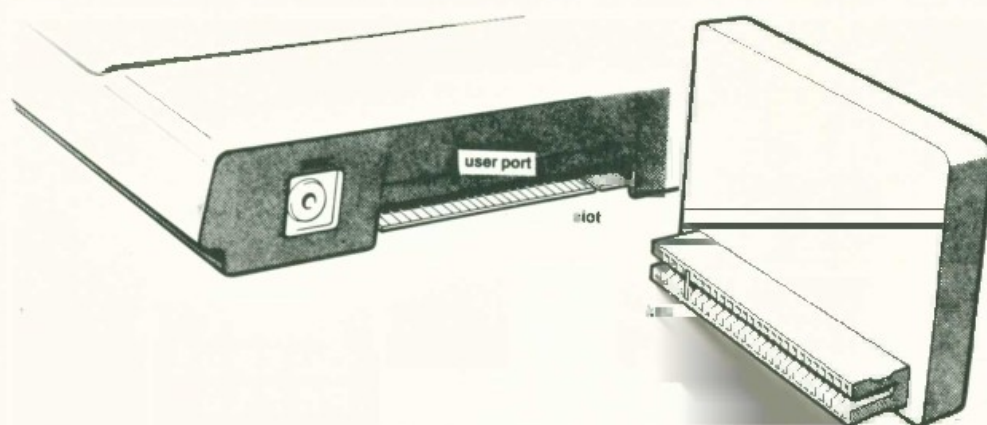

Fig. 1.1. Spectrum user port, and a typical add-on showing edge connector.
small piece of metal) is in place on the edge connector (see Fig. 1.1). If the key has fallen out and a connection is made, damage could result.
- When connecting equipment of any kind to the user port at the back of the Spectrum, make sure that the key lines up with the slot visible on the printed circuit board inside the user port (see Fig. 1.1).